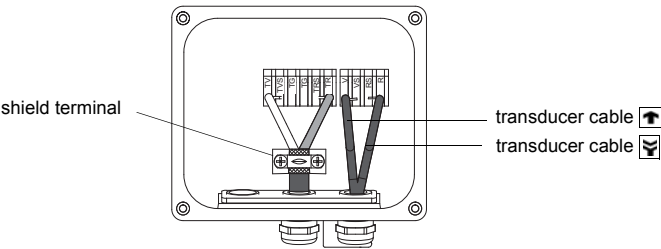

Fig. 6.8: Terminals for the connection of the extension cable and the transducer cable (ATEX zone 1)
- Pull the extension cable back until the brushed back external shield is below the shield terminal of the junction box(see Fig. 6.8).
- Fix the extension cable and the external shield to the shield terminal of the junction box (see Fig. 6.8).
- Connect the leads to the terminals of the junction box (see Fig. 6.8 and Table 6.6).
- Connect the leads to the terminals of the junction box (see Fig. 6.8 and Table 6.7).